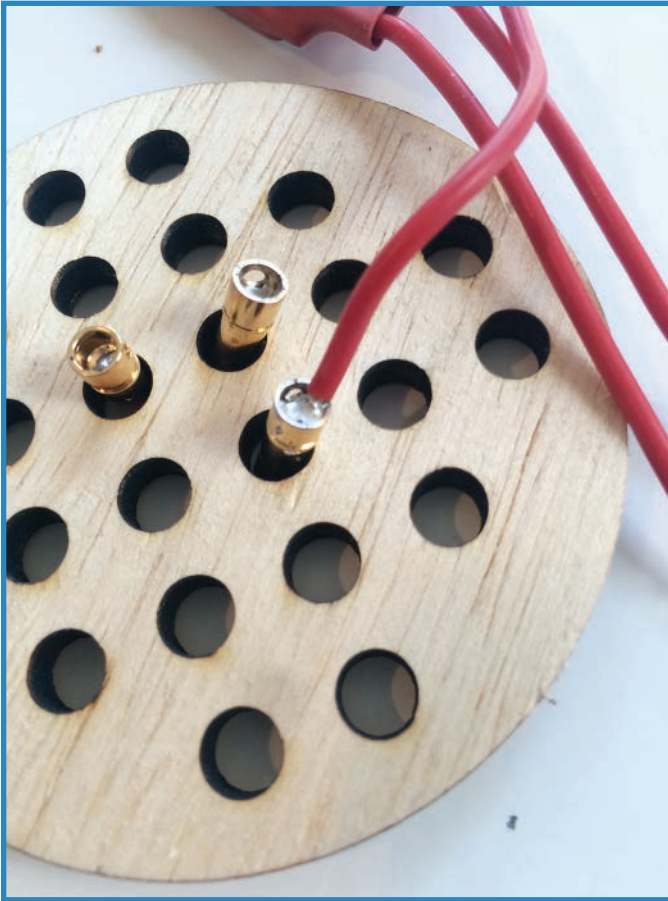

FIGURE 10.9 Solder on the bullet connector.
- 5. Solder them on.** Put a tinned wire end into one of the connectors. Put your soldering iron tip to the hole, which will help melt the solder inside it. You may want to add some more hot solder around the top of the connector if it seems loose. Figure 10.9 shows how it should look.